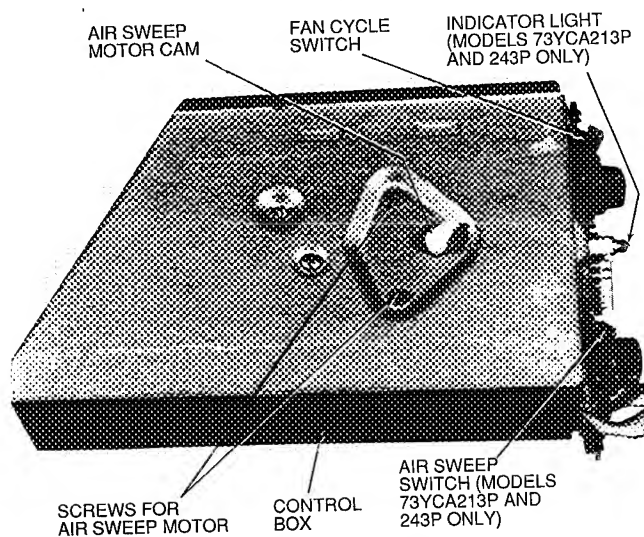

Fig. 13 — Removing Air Sweep Motor
3. Remove 2 screws securing fan cycle switch (Fig. 13) and remove switch.
3. Remove 2 screws securing air sweep switch (Fig. 13) and remove switch.
3. Carefully pull plastic air sweep motor cam from shaft. See Fig. 13.